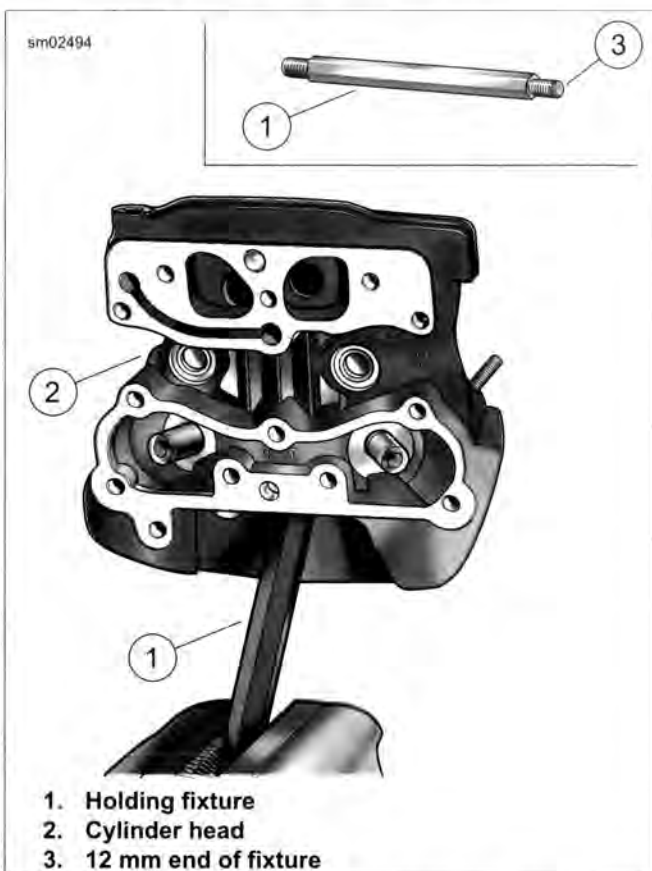

Figure 3-34. Cylinder Head Holding Fixture
2. See Figure 3-34. Secure cylinder head for service.
- a. Turn 12 mm end of CYLINDER HEAD HOLDING FIXTURE (Part No. HD-39786) (1) into cylinder head (2) spark plug hole.